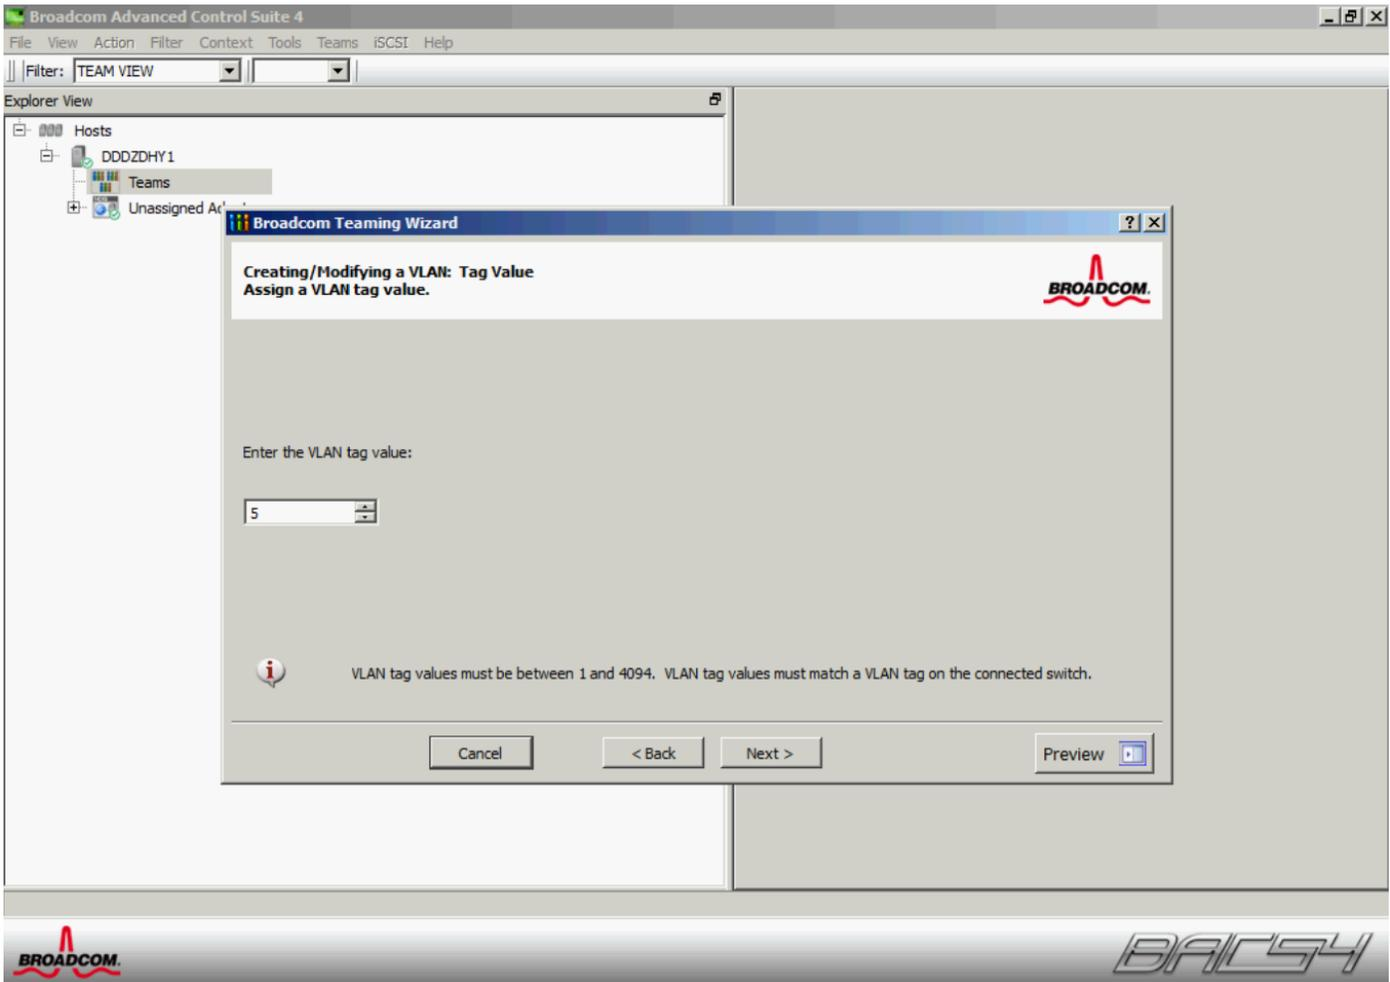

Figure 22 Selecting the correct VLAN ID
16. Enter **5** for the VLAN tag value (Figure 22) and click **Next**.